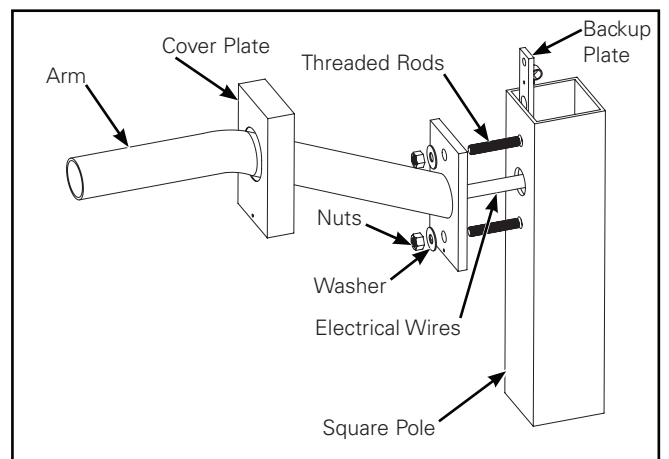
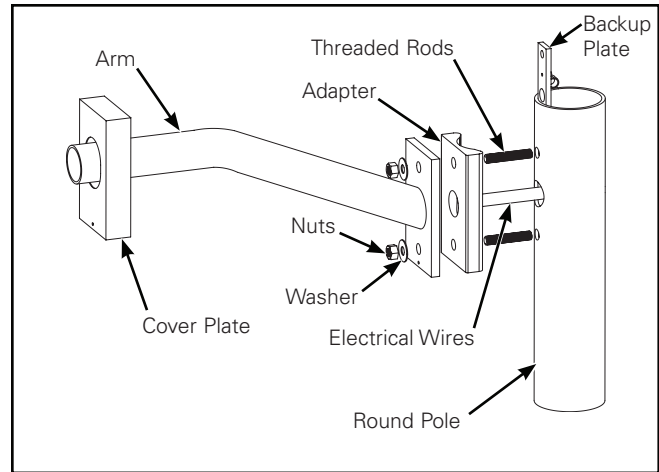

Figure 6.
Figure 7.
Mast Arm: Square Pole (Figure 6.) and Round Pole (Figure 7.)
3. For round poles only - Install round plate adapter with round side facing pole (Figure 7.). Align holes top and bottom.
Installation du bras (facultatif)**Crosse : Poteau carré (Figure 6) et poteau rond (Figure 7).**